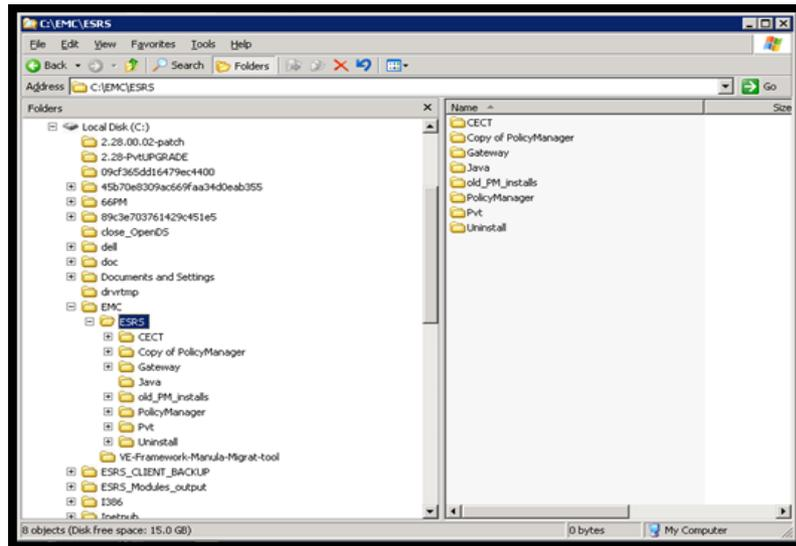

Figure 105 Navigating to SRS
- Navigate to the location where SRS is installed (default path <install_drive>:\EMC\ESRS\), as shown in Figure 105 on page 95.